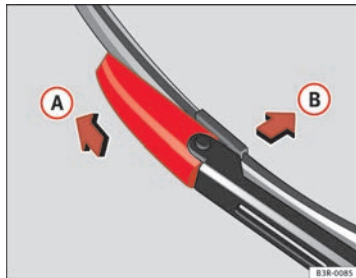

Fig. 181 Removing the wiper blade
- Slide the retainer catch on the wiper blade in the direction indicated ⇒ fig. 181 (A). Hold onto the wiper blade at the same time.
- Pull the wiper blade (B) out of its mounting on the wiper arm.